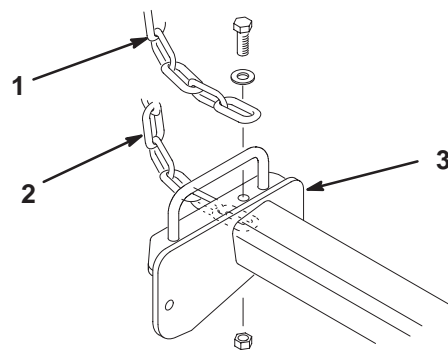

Figure 11
3. Secure a tipper chain to the top of each 27" cutting unit carrier frame and to the bottom of each 32" cutting unit carrier frame with a capscrew, washer, and locknut (Fig. 11).